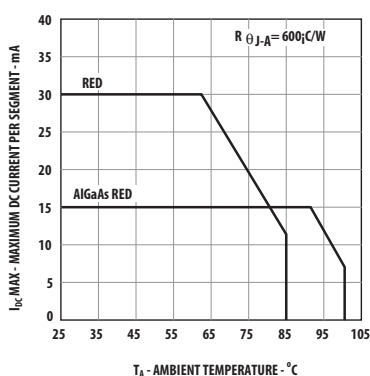

Figure 3. Maximum Allowable DC Current vs. Ambient Temperature.
5. Derate maximum DC current for Red above  $T_A = 62^\circ\text{C}$  at 0.79 mA/°C, and AlGaAs Red above  $T_A = 91^\circ\text{C}$  at 0.8 mA/°C. See Figure 3.